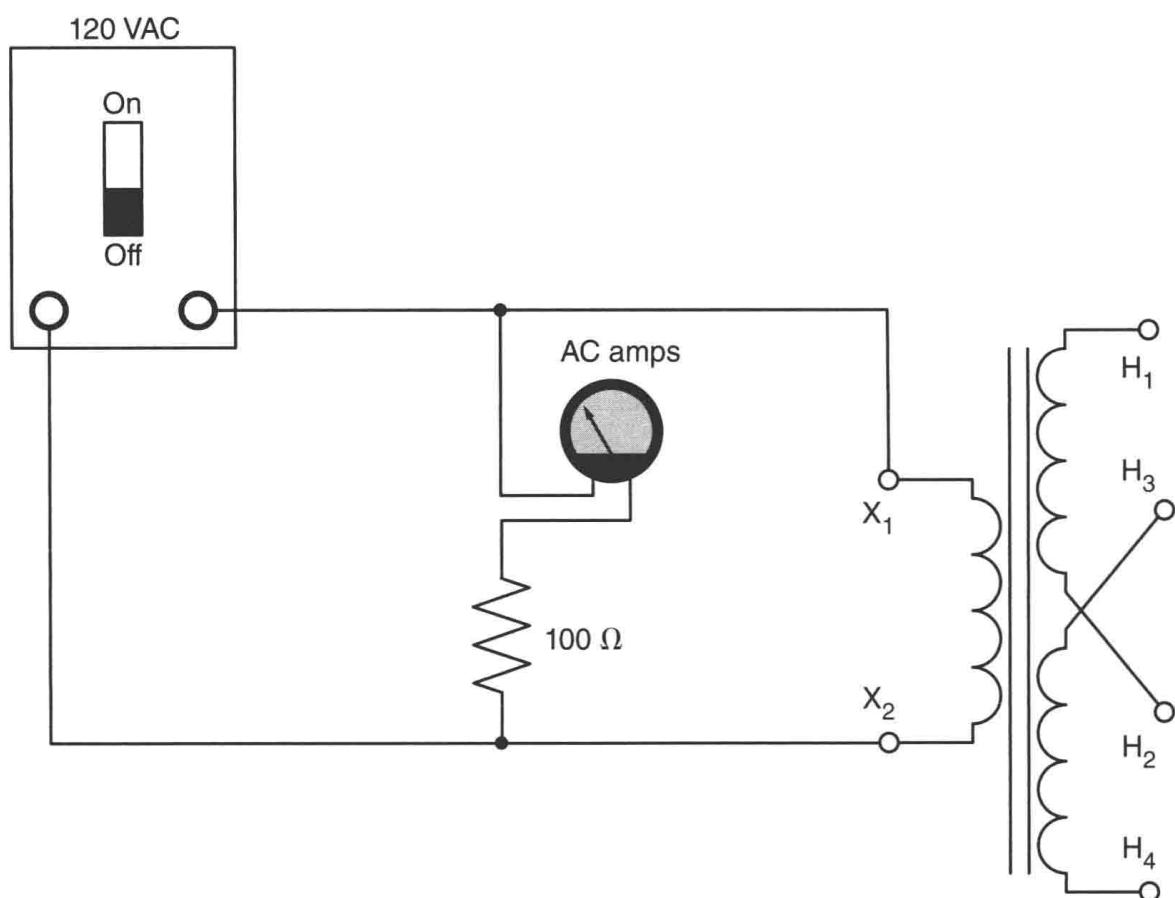

Figure 12-4 Measuring current through the resistive load.
4. Connect an AC ammeter in series with the 100 ohm resistor as shown in Figure 12-4.